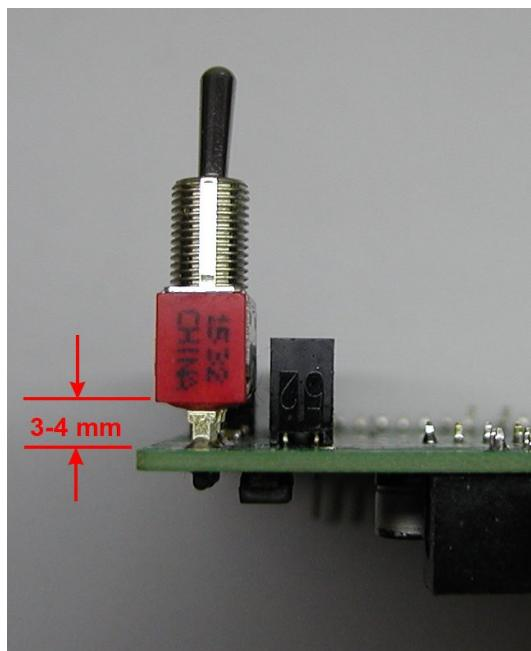

Fig. 6: Power switch mounting
- Finally, we can mount power switch (see Fig. 6). Once again, it's recommended to see how it's aligned with the corresponding hole on the enclosure's front panel first, then adjust its position